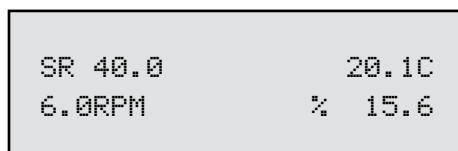

Figure II-13
The next press of the SELECT DISPLAY key would display Shear Rate (SR) in 1/Sec (Figure II-13).